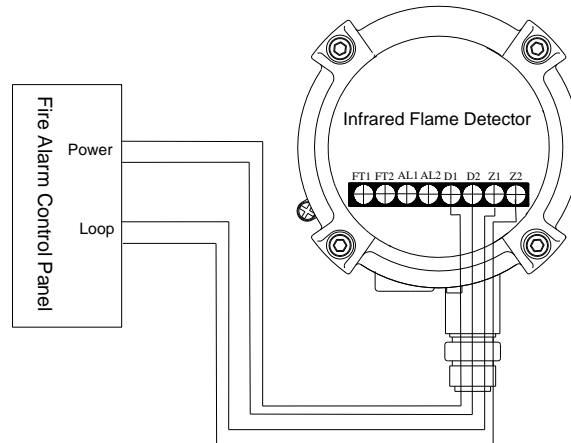

Fig. 10
- 1 Fig. 10 shows the connection of the detector with GST fire alarm control panel.